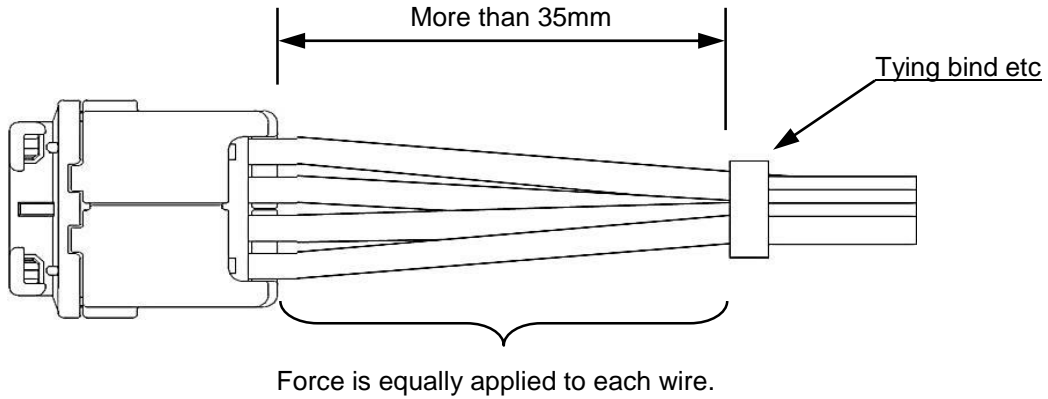

Fig.7-1 Harness is bundled properly
- ① Please bundle the wires at more than 35mm away from connector and uniformize the force applied to each wire. (Fig.7-1)